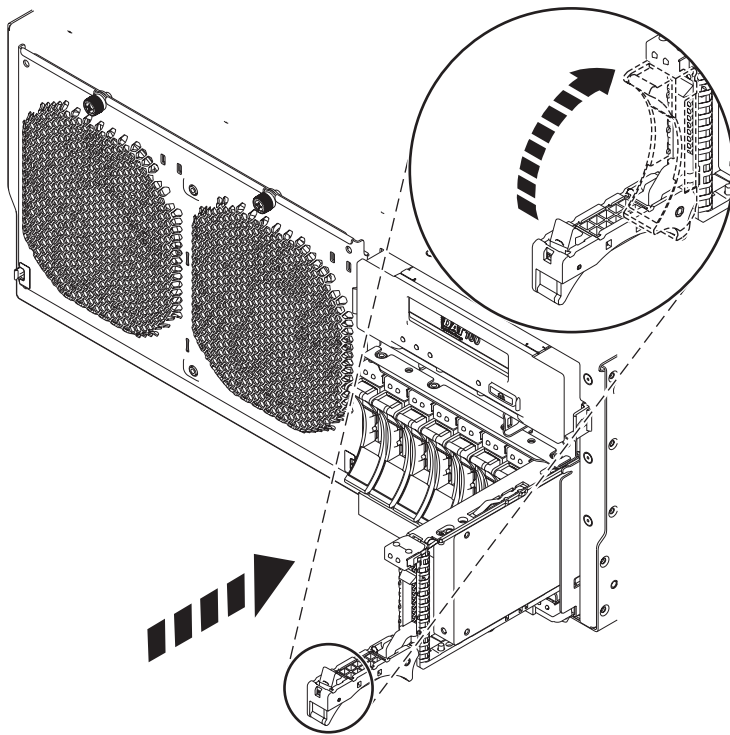

Figure 22. Replacing a disk drive in the system
7. When the identify LED flashes, slide the disk drive or solid-state drive all the way into the system or an expansion unit, and push the drive handle (A) in until it locks, as shown in Figure 22.